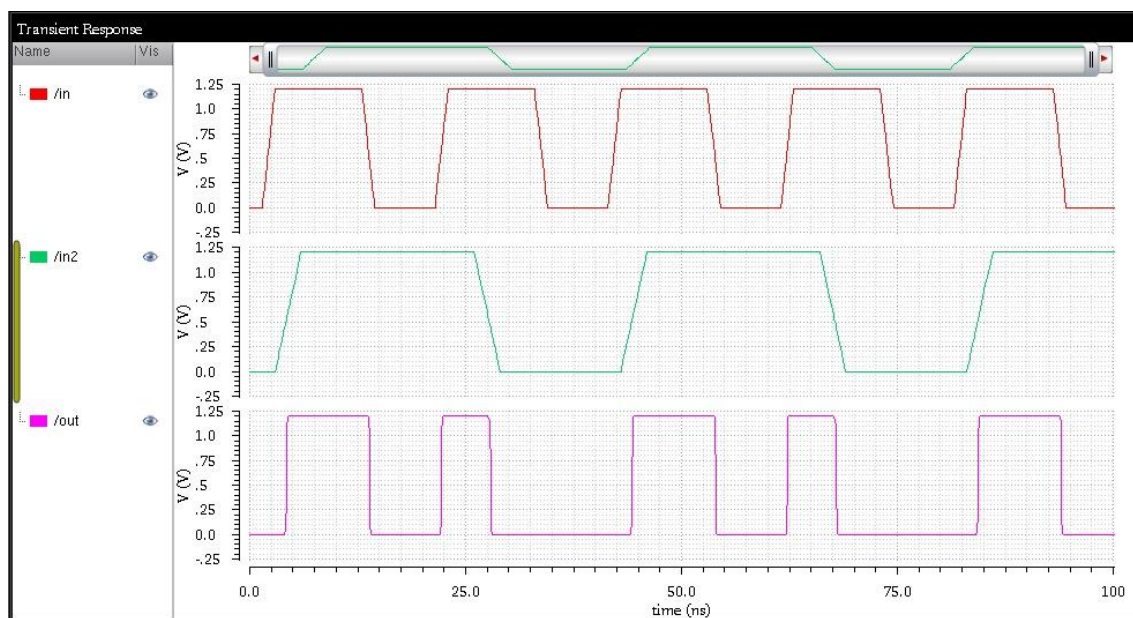

Figure 5: Inputs and output plot of CMOS AND gate
- The inputs and output plot was shown in figure 5.